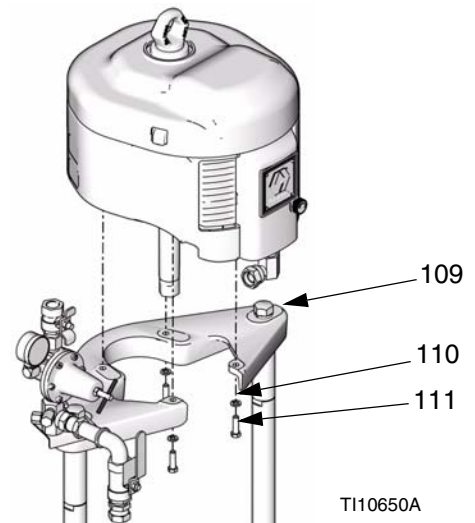

FIG. 26
- b. *For NXT with smaller platen:* If the motor was removed, tighten set screws (111) and washers (110) on mounting bracket (109). See FIG. 26 on page 23.
1. Using a secure hoist, attach motor to mounting plate (109) with screws (111) and washers (110). See FIG. 26 on page 23.